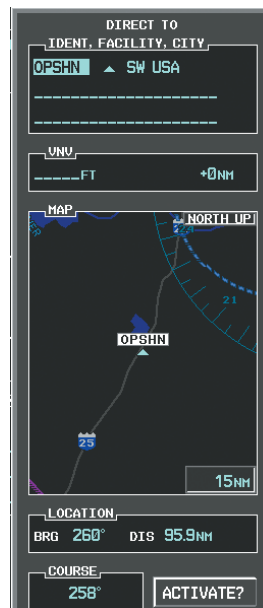

Figure 5-120 Direct To OPSHN
- Press the **Direct-to** (**D>**) Key. The Direct-to Window is now displayed as shown in Figure 5-120.